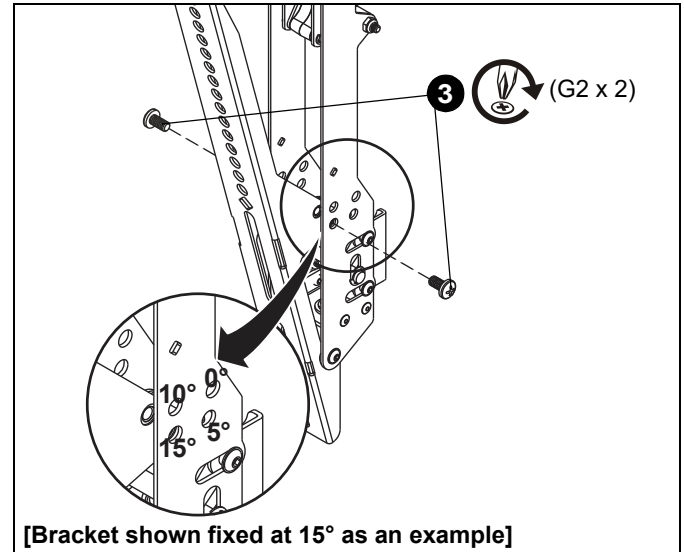

Figure 8
3. Adjust tilt on interface brackets as determined in Step 3 of the **Preparing for Installation** section, and fasten in place using two 1/4-20 x 1/2" Phillips head screws (G2) per interface bracket. (See Figure 8)